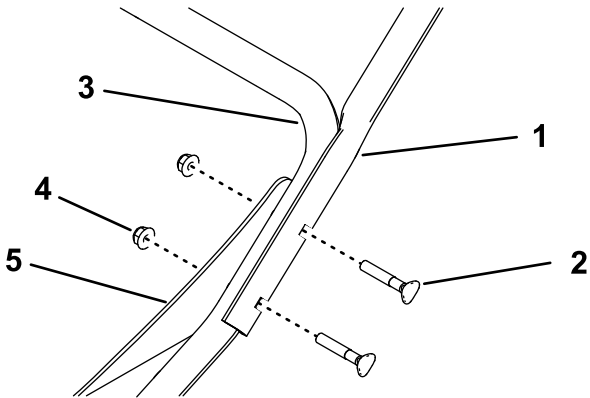

Figure 3
1. Install the upper handle tubes to the lower handle and braces using 2 handle bolts and 2 nuts (5/16 inch) on both sides of the machine (Figure 3).